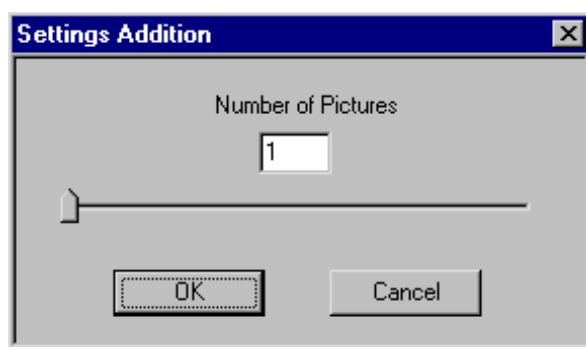

Figure 34: Number of Images
- The desired number of images can be selected under *Options / Addition Settings* (see Figure 34).